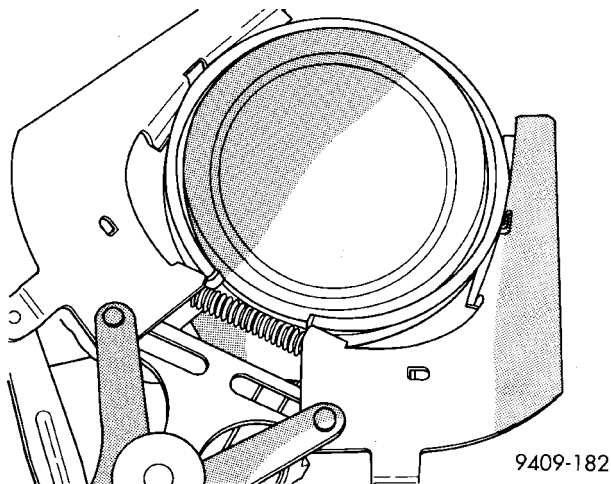

Fig. 80 Piston Rings—Removing and Installing
(1) ID mark on face of upper and intermediate piston rings must point toward piston crown.
(2) Using a suitable ring expander, remove upper and intermediate piston rings (Fig. 80).